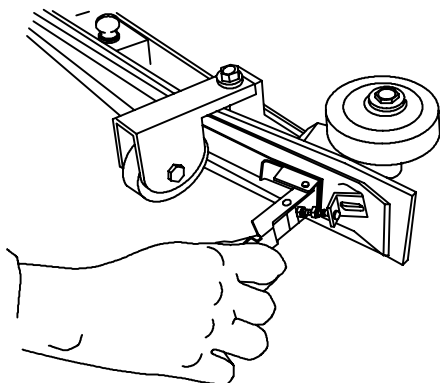

FIG. 69
5. To remove rear squeegee blade, unlatch retainer clamp and remove retainer band and squeegee blade from squeegee frame (Figure 69).